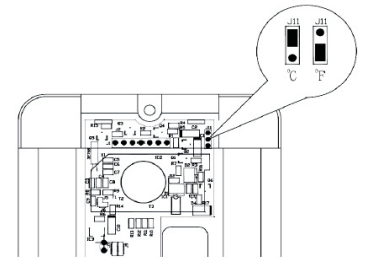

Figure 2
6. °F or °C mode is selectable by changing the jumper position on PCB as shown in figure 2.